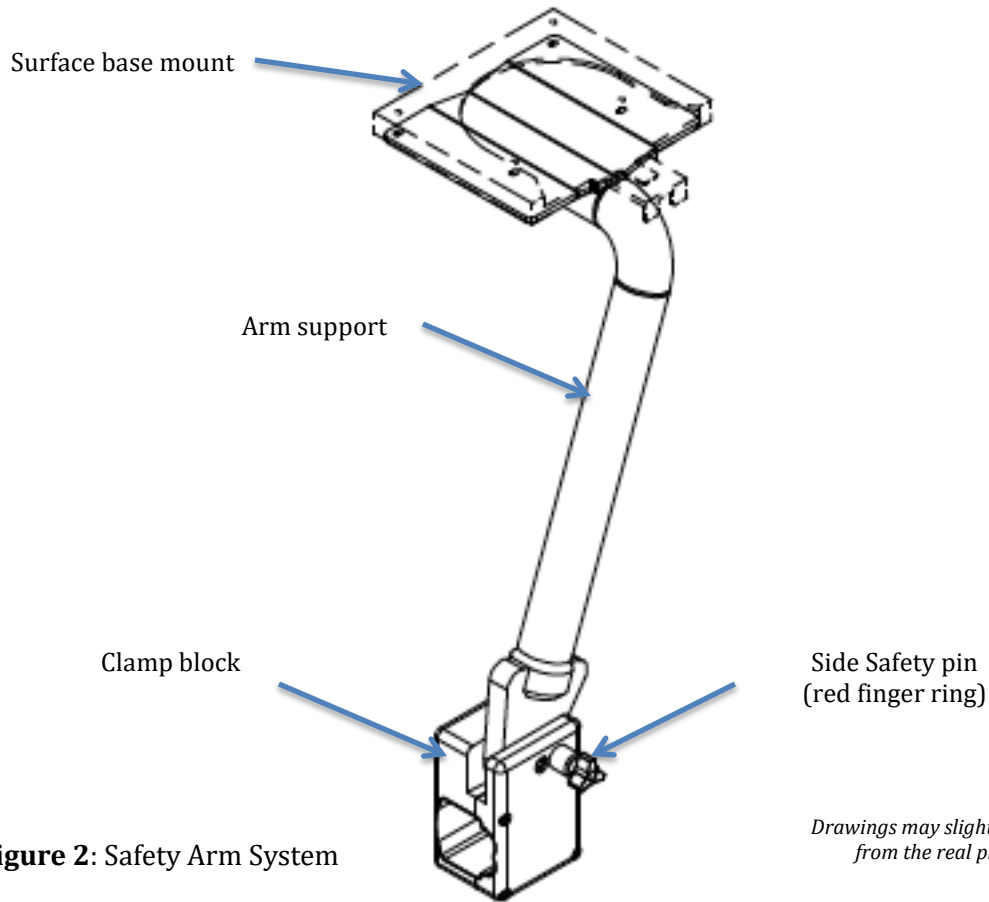

Figure 2: Safety Arm System
- 2 X Screw 10-32 x 1-3/4" Philips (star)(kit figure 2)